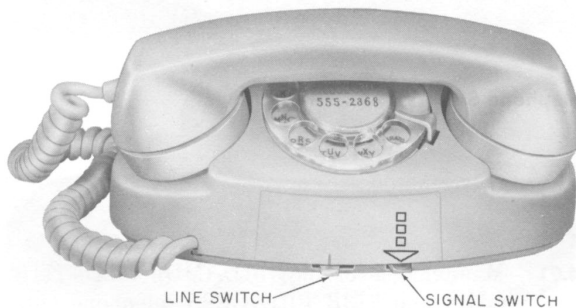

Fig. 5—711B (MD) Telephone Set
2.07 The 711B (MD) telephone set (Fig. 5) is equipped with a slide switch for line selection and a switch (push-to-operate) for signaling.